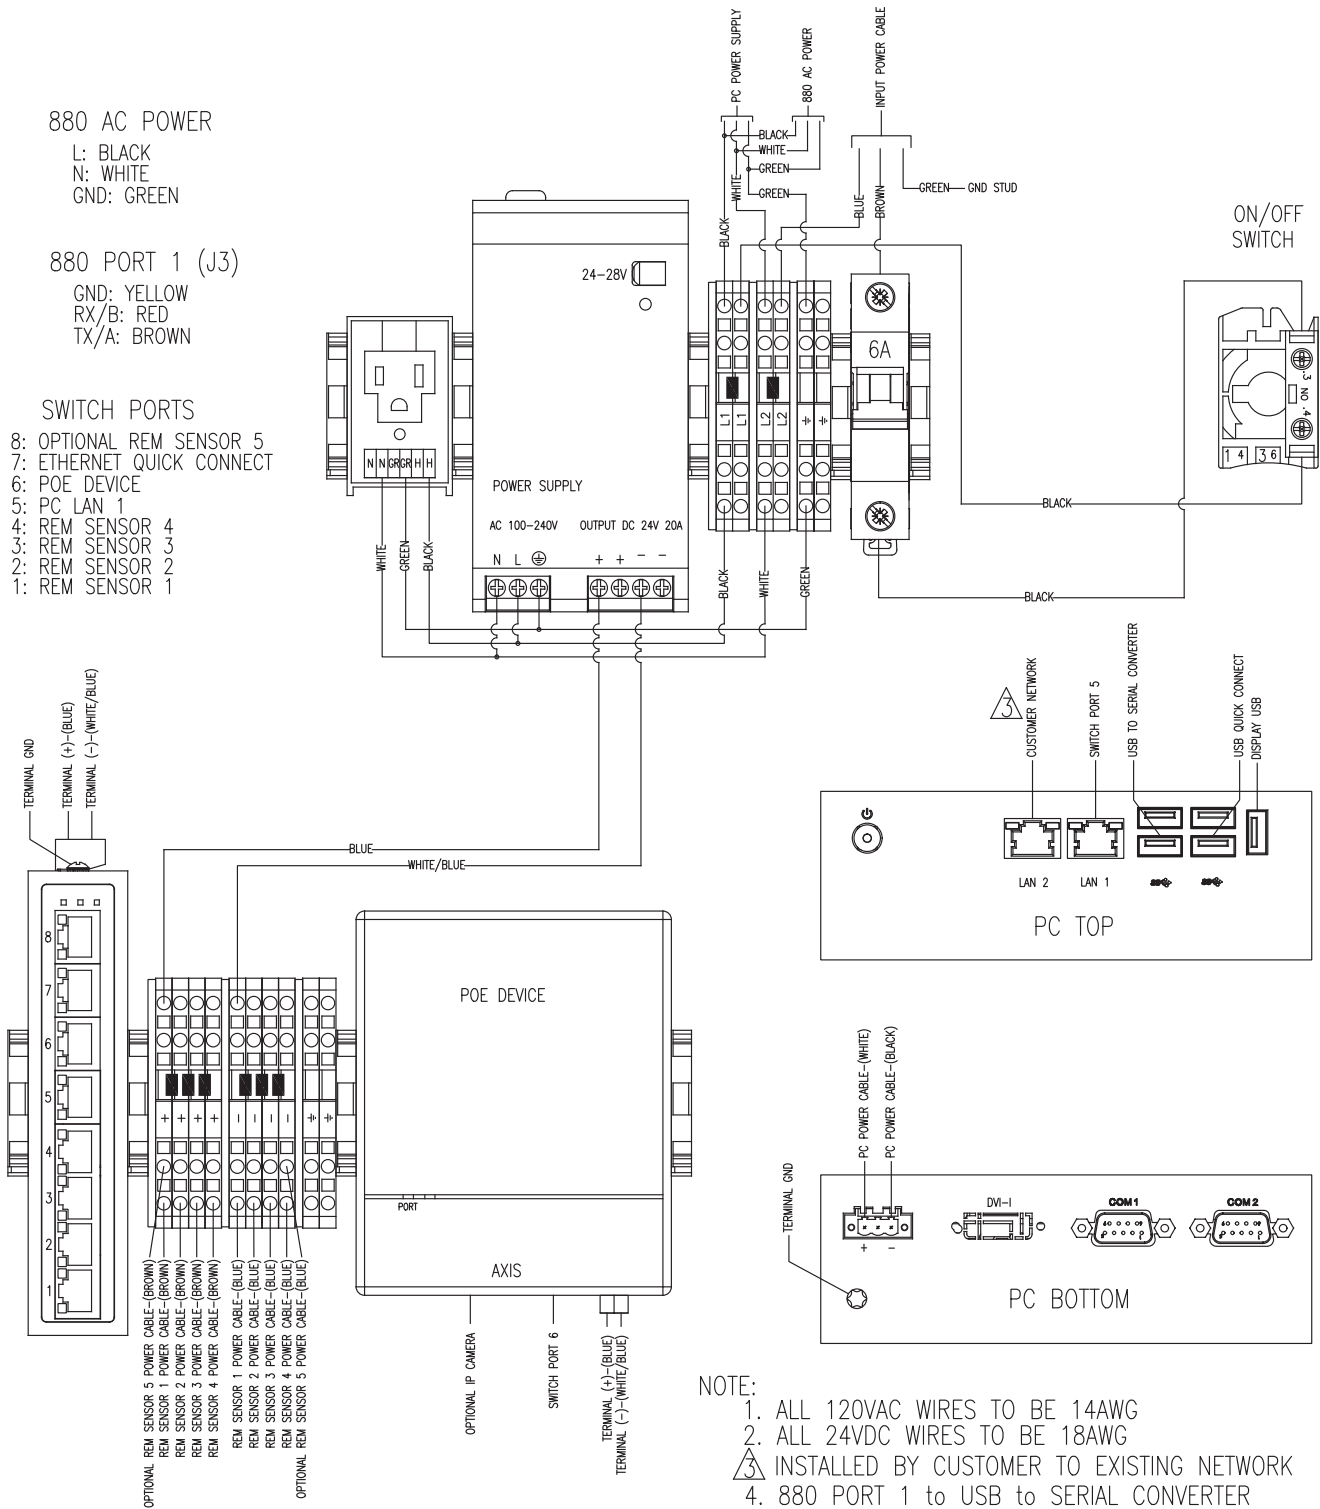

Figure 3-20. 880 Wiring Diagram
- Strip and wire the SUMMIT 3000 scale homerun cable to the indicator (Figure 3-20 for 880 Indicator and Figure 3-21 on page 27 for 1280 Indicator).